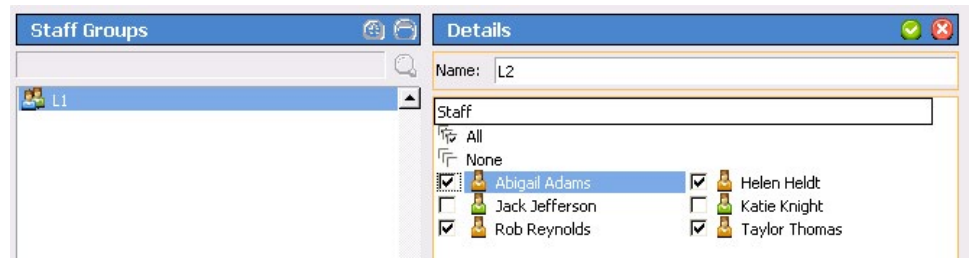

Figure 48: Event Monitor Staff Groups Register
1. In the Event Monitor software, click the **Registers** button and then select **Staff Groups**. The Staff Groups register will appear as shown in Figure 48.